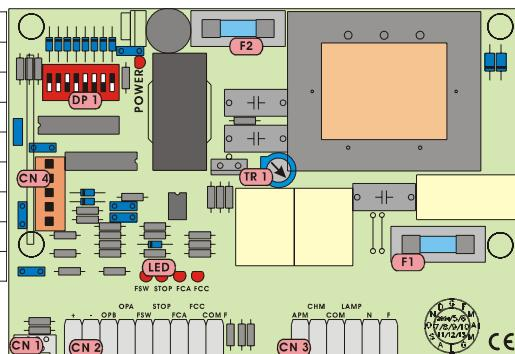

Fig. 1
The control unit is designed to house a 5-pin radio-receiver module. Installation procedure: turn off power and fit the module on connector **CN4** (see Fig.1) on the control unit.
All the board's programmable functions are defined by using dip-switch DP1 (see Fig.1). The various options are listed in the following tables.
**Without encoder:** to adjust motor power, use trimmer TR1 (see Fig.1), turning it anti-clockwise to reduce power and clockwise to increase it. Motor power must be adjusted according to gate dimensions, weight, and to gate friction during movement.